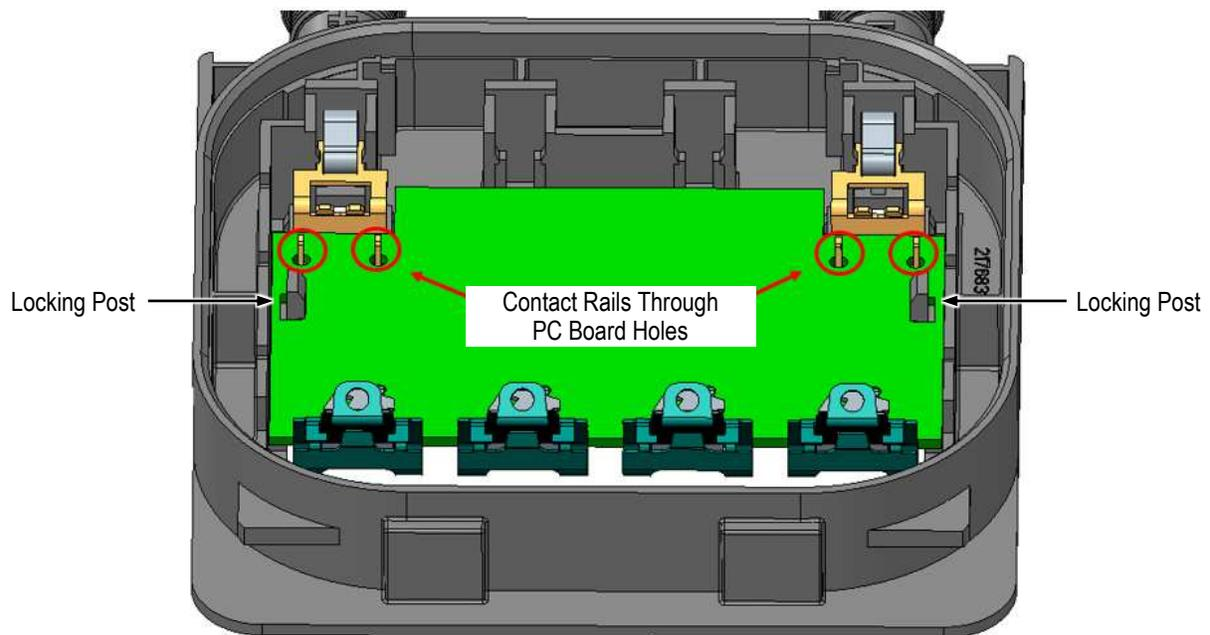

Figure 5
4. Gently push the pc board until the locking slots of the pc board engage the locking posts of the enclosure. Solder the pc board to the contact rails using a hand soldering gun. See Figure 5.